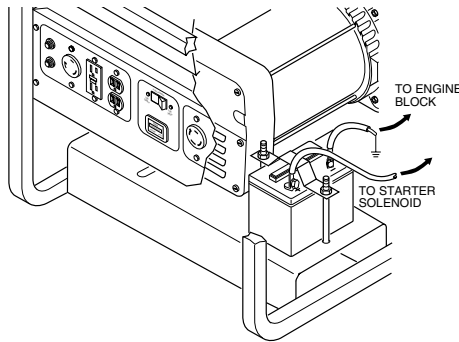

Figure 14 - Connecting Positive and Negative Cables to Battery (Model MGH6500IE Shown)
2. Locate the red, positive (+) battery cable from starter solenoid. Connect it to the positive (+) battery terminal (see Figures 14 and 15).
3. Locate the black, negative (-) battery cable attached to engine block. Connect it to the negative (-) battery terminal (see Figures 14 and 15).